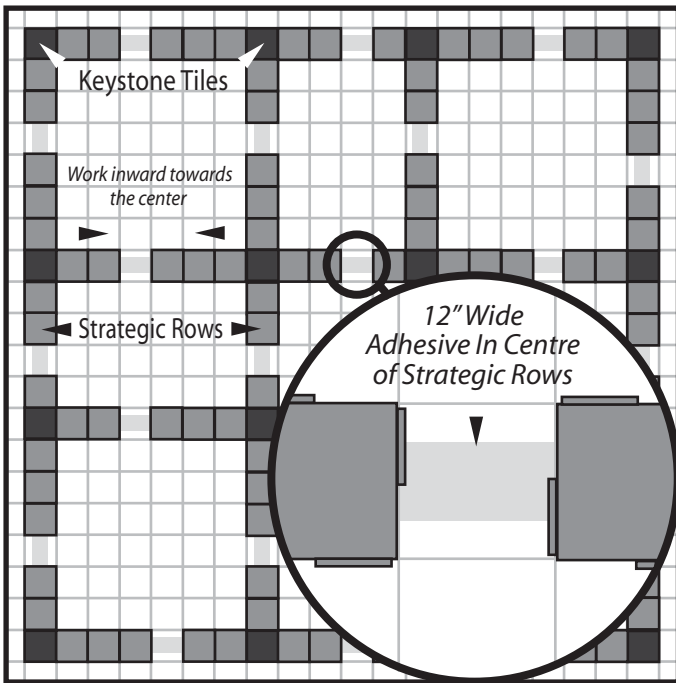

Fig. 6
- Install strategic rows of tiles beginning at opposite ends of the keystone tiles working inwards towards the center (**Fig. 6**).